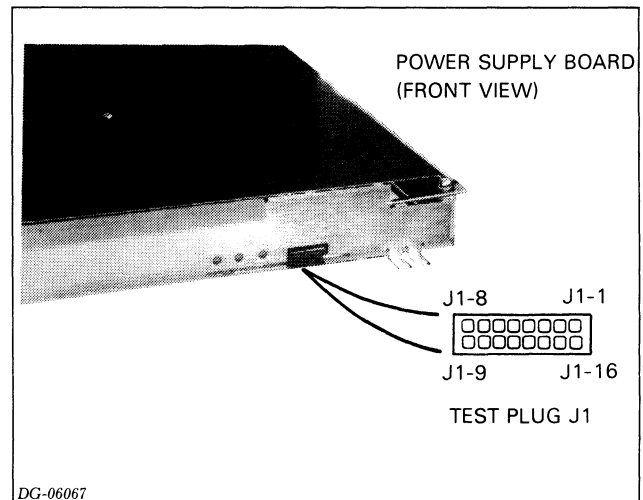

Figure 6.8 Test plug
2. Check the +5V voltage at test plug J1-15 (see Figure 6.8). If +5V is between 5.10V and 5.20V, go to "Final Checkout"; otherwise, continue the checkout.
- If **-11V** is NOT between -11.0V and -12.5V (-30VNR not ok), check the **VREF** at test plug J1-14 (see figure 6.8). If **VREF** is 5.8V, replace the VNR unit; otherwise, replace the power supply board.
- If **-11V** is between -11.0V and -12.5V (-30VNR ok), check the **HVS** voltage at test plug J1-4 (see Figure 6.8). If **HVS** is greater than 2.9V, replace the power supply board; otherwise, replace the VNR unit.
6. Recheck the +5V voltage at test plug J1-15 (see Figure 6.8). If it is between 5.10V and 5.20V, go to "Final Checkout"; otherwise, try replacing the internal cable (wiring harness). If this does not work, call DGC Field Service.
- Make sure the LOCK switch is in the UNLOCK position. If the fans still do not stop, check the **PWR FAIL** voltage at test plug J1-3 (see Figure 6.8).
- If **PWR FAIL** is less than 0.4V, check **PON** at test plug J1-11 (see Figure 6.8). If **PON** is less than 0.4V, replace the VNR unit; otherwise, replace the power supply board.